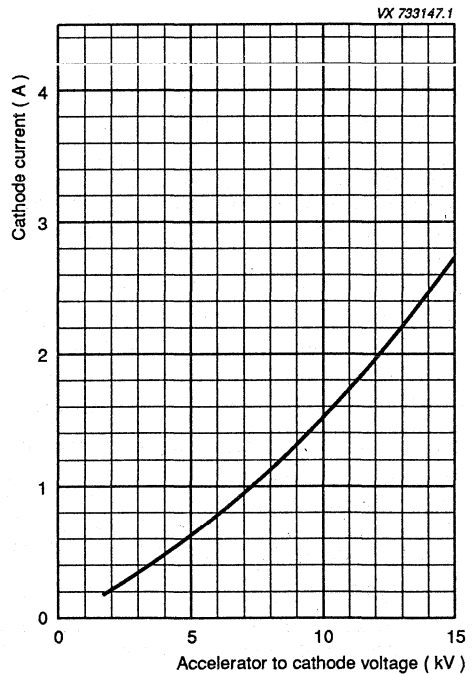

Fig. 4.
- For cathode current versus accelerator-to-cathode voltage, see Fig. 4.